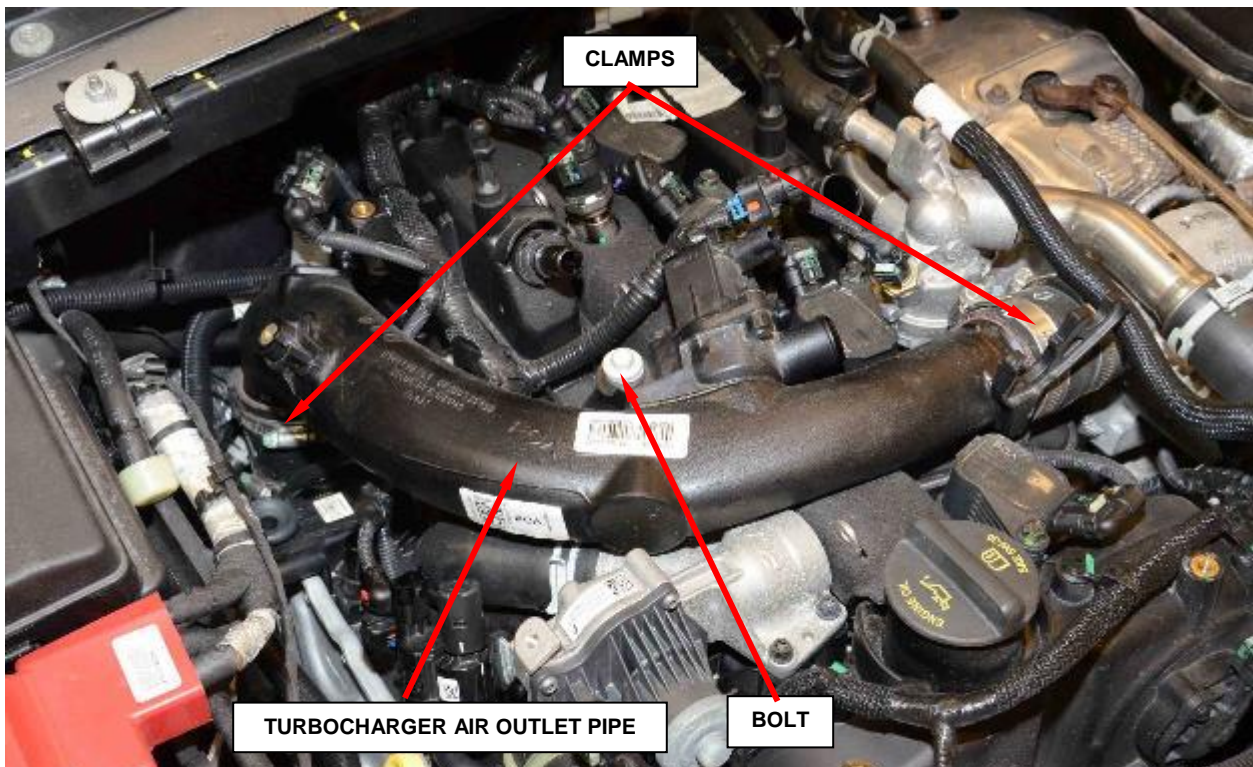

Figure 8 – Turbocharger Air Outlet Pipe
10. Remove one bolt in the turbocharger air outlet pipe (Figure 8).
11. Loosen the turbocharger air outlet pipe worm gear clamps at the throttle body and turbo ends. Remove turbocharger air outlet pipe (Figure 8).